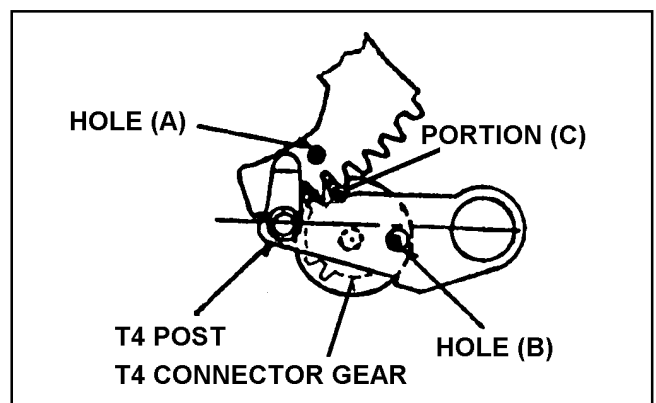

Figure 5-22
1. Confirm that the hole (B) of T4 connection Gear match with the hole of T4 post as shown in figure 5-22.
2. Confirm that the portion (C) of T4 connection Gear and hole (A). Those are located as shown in figure 5-22.